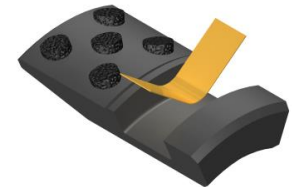

Fig. 5
**NOTE7:** Install one (1 ea) spring per slip (Fig. 5).